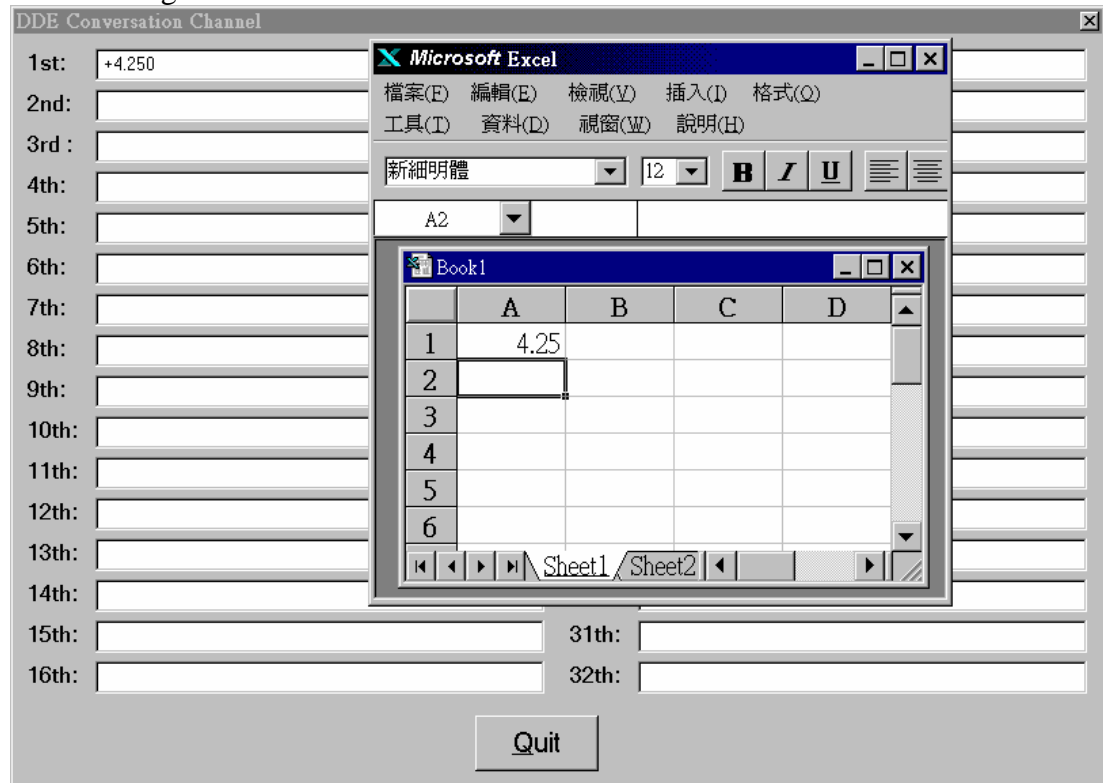

Fig 3-14.
Step 4: Trying to change the value of A1 cell of Excel, then the value in first conversation channel may vary according to the value in A1 cell of Excel as shown in Fig 3-14.